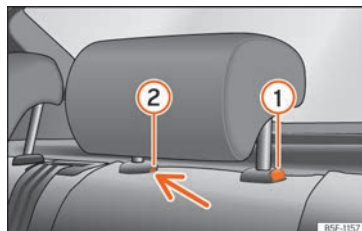

Fig. 103 Rear headrest: removal.
- Press button »» Fig. 103 ①, while simultaneously pressing on the security hole ② with a flat screwdriver a maximum of 5 mm wide, and remove the headrest.